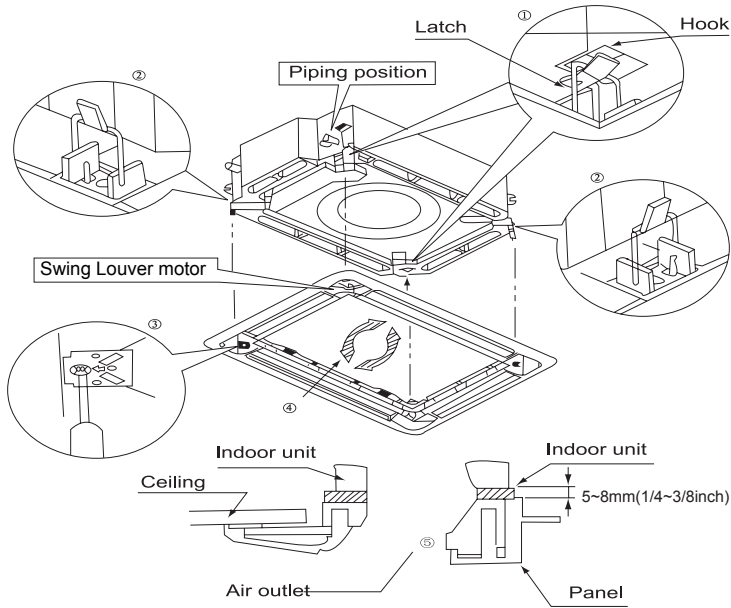

Fig. 4.35
- (1). Place the panel at the unit, and latch the hooks beside and opposite the swing flap motor.
- (2). Latch other two hooks.
- (3). Tighten four hexagonal screws under the latches about 15mm(5/8inch).
- (4). Adjust the panel along the direction indicated by the arrow as shown in Fig. 4.35.
- (5). Tighten the screws until the thickness of the sealing material between the panel and the indoor unit reduces to 5~8cm(1/4~3/8inch).